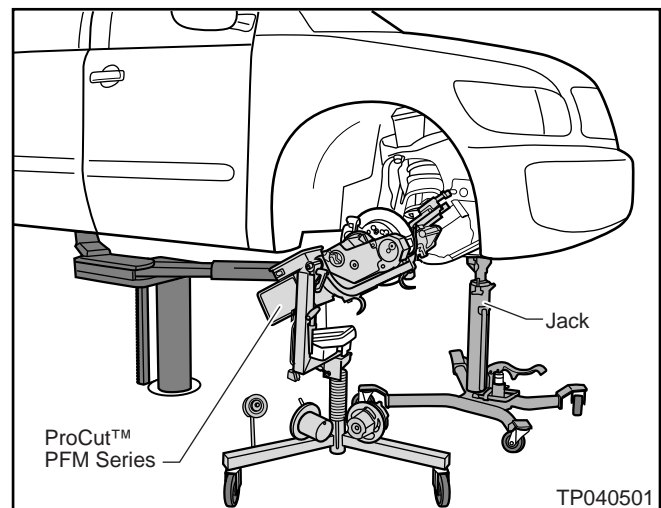

Figure 4
B. For best accuracy, “stabilize” (firmly support) the vehicle with a jack or jack stand as shown in Figure 4.